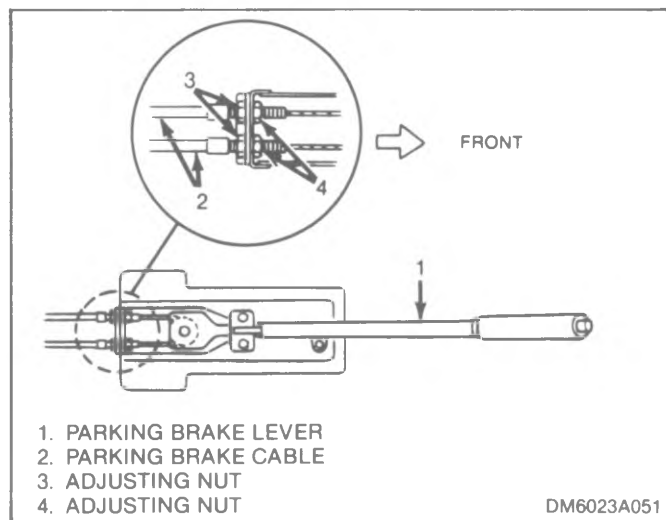

Figure 4-6. 1985-86 Sprint Parking Brake Adjustment
2. To tighten parking brake cable, loosen adjusting nuts (3) equally and tighten adjusting nuts (4) (see figure 4-6).
3. To loosen parking brake cable, loosen adjusting nuts (4) equally and tighten adjusting nuts (3) (see figure 4-6).